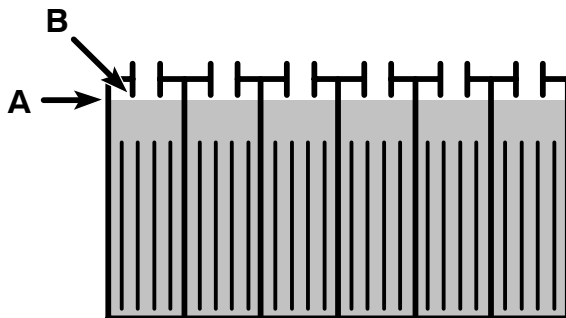

FIG. 21
7. After charging, check the electrolyte level (A) again. The level should be approximately 1 cm (0.38 in) from the bottom of the fill-port (B) (Figure 21). Add distilled water if needed. **DO NOT OVERFILL.**